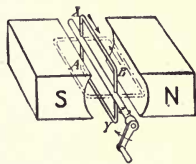

FIG. 83.—Magnetic Field. Showing loop of wire rotating between the north (N) and south (S) poles of a magnet.
**226. Generating Large Amounts of Current.**—We have studied how electricity is generated by chemical means in batteries and by friction. These two forms of electrical energy are very valuable for commercial purposes where a small current is sufficient, such as is necessary for ringing electric bells, etc. The current generated by these two methods is not, however, strong enough to drive large machines or to light lamps. The commercial method of generating electricity on a large scale is by means of a machine called a *dynamo* or generator. The principal parts of a dynamo are: (1) the *magnetic field*, produced by permanent magnets or electromagnets; and (2) the *armature*, which consists of a moving coil or coils of wire wound on a revolving iron ring or drum.
**227. The Principle of a Dynamo.**—The generation of electricity by a dynamo is based on a principle of magnetism called induction. When the lines of force that pass from the north to the south pole of a magnet are cut by a wire there is produced or induced in the wire a current of electricity. That is, if we take a loop or coil of wire which has no current in it and a magnet which also has no current, and move the loop or coil between the poles, as shown in Fig. 83, a momentary current is produced. If a series of loops or coils are
Examine Fig. 83 and notice the loop of wire between the poles of the magnet. If the loop is rotated to the right, as indicated by the arrow head, the wire *XB* moves down during the first half of the revolution. According to Fleming's Rule, the current would be directed from *B* to *X*. The wire *YA* would move up during the first half of the revolution and the current flow from *A* to *Y*. As the result of the first half of the revolution, the current would flow in the direction *AYBX*.